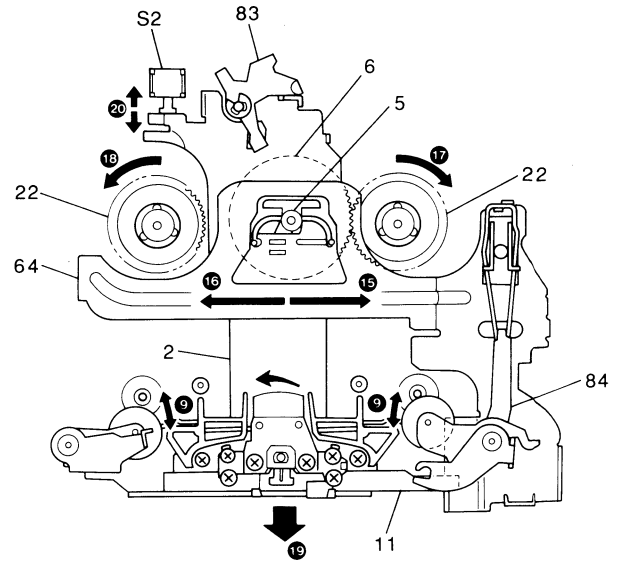
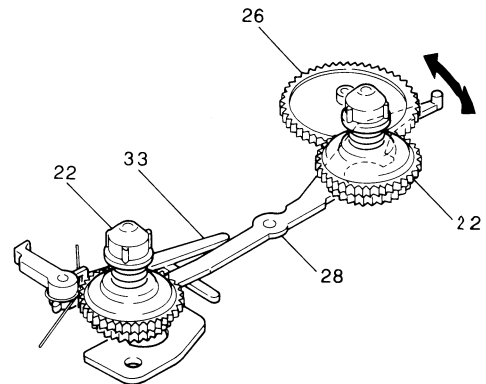

Fig. 11
Fig. 12
e) The play gear metal (5) is engaged, per arrows (15) and (16) in Fig. 11. Then play gear (6) is connected to take-up reel assembly (22) on forward side in FWD play, and connected to the other take-up reel assembly in REV play. Rotation from the play clutch (31) is transferred to take-up reel assembly per arrows (17) and (18) in Fig.11. As mentioned above, the direction in play mode can be changed. During play mode active, the head panel is moved backward by head panel return arm (88) in direction of arrow (19) in Fig.11. The Mute switch (S2) is turned on per arrow (20), and play mode is not reversed while FF/REW levers are pushed by operation of anti-reverse arm (33). See Fig. 12.